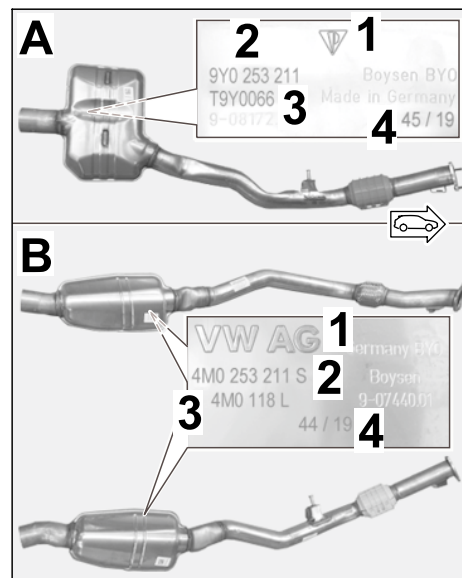

Figure 6
– Front silencer (⇒ *Figure 6*):